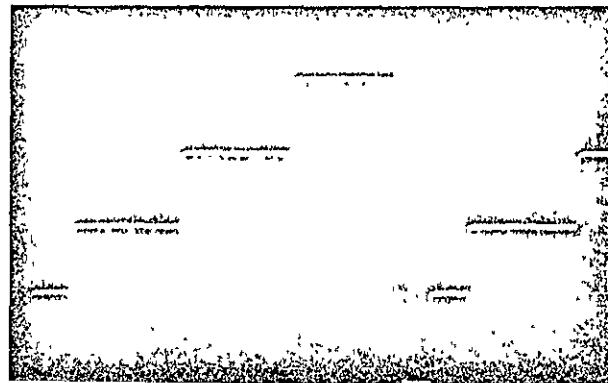

Figure 3-7. INTERLEAVER VID INPUT 3-step test signal
3. Monitor signal at front panel INTERLEAVER VID INPUT test jacks. Set TV signal generator for stairstep (3 steps) output. Adjust composite video for a level of 1.0 V pp (100/28 ratio, 0.22 V pp sync.) Refer to Figure 3-7.